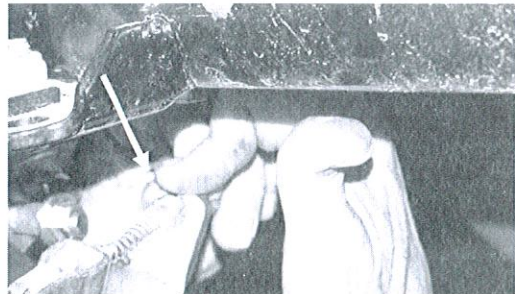
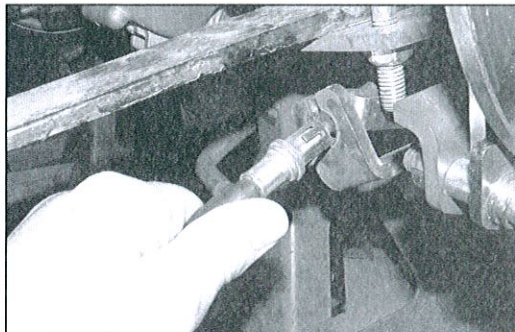

Fig. 9 – DS cars - Installing retaining clip
Fig 10 – Precedent cars - Installing cable
13. Anchor brake cable conduit fitting to cable bracket provided on brake caliper. On DS cars use retaining ring from previous drum installation to keep it in place. (See Fig. 9) On Precedent cars cable has a built-in retainer. (See Fig 10)